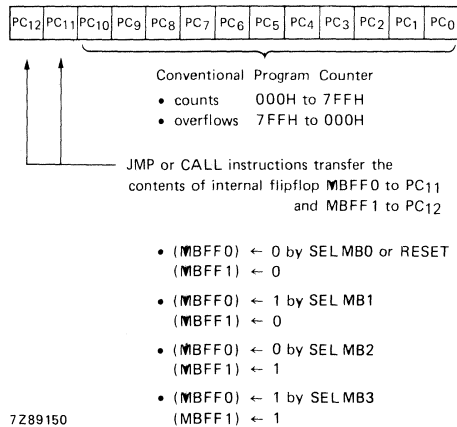

Fig. 20 Program counter.
**Program counter** (see Fig. 20)
The 13-bit program counter is able to address 8 K bytes of ROM. The arrangement of the bits is shown in figure 20. During an interrupt subroutine PC11 and PC12 are forced to logic 0. All 13 bits are saved in the stack during CALL and interrupt routines.